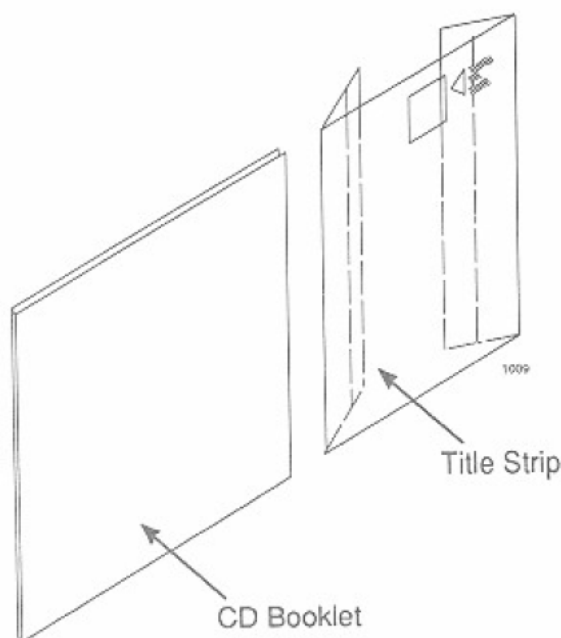

Figure 2-2. Folding The Title Strip
2. Fold the title strip along the inner most perforated line on both sides of the title strip (see *figure 2-2*).